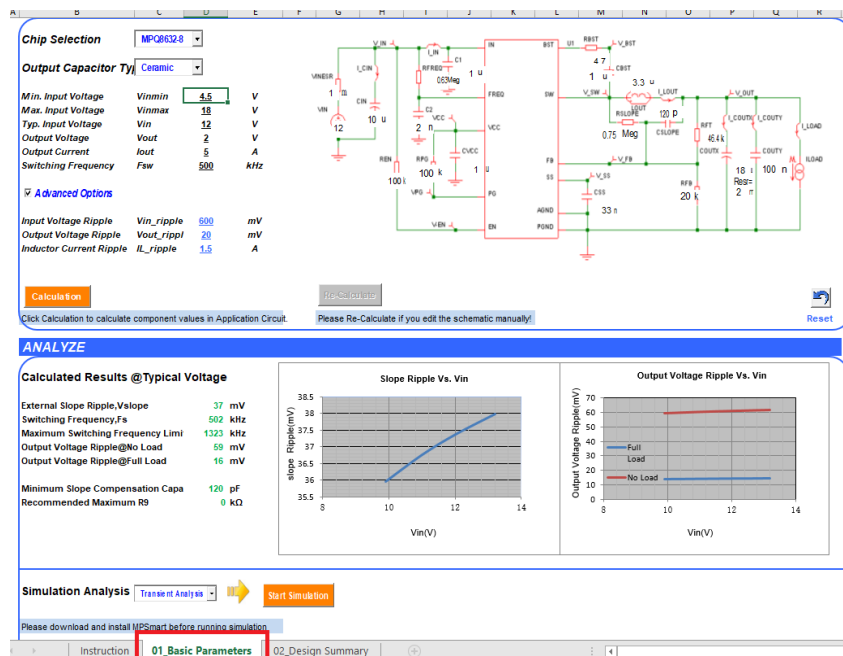
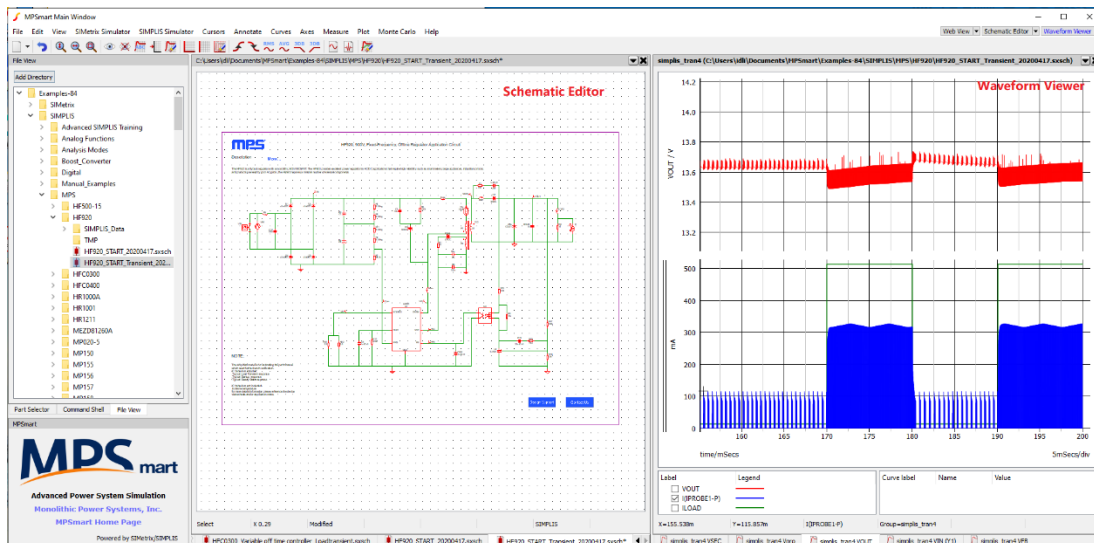

Figure 21: Basic Parameters Sheet
Figure 23: Load Design and Run Simulation in MPSmart with Design Spreadsheet
- In the “01_Basic Parameters” sheet, input the design specifications. Choose an IC part number. After inputting the specifications, users can obtain power loss data, efficiency curves, a BOM, and PCB guidelines (see Figure 21).
- Another important feature is that users can edit and modify the design circuit in the “01_Basic_Parameters” sheet (see Figure 21 on page 17). Select “Analysis Type” in the design sheet, then click the “Start Simulation” button to automatically start and load the customized design circuit (see Figure 23). Press F9 to run and check the performance.